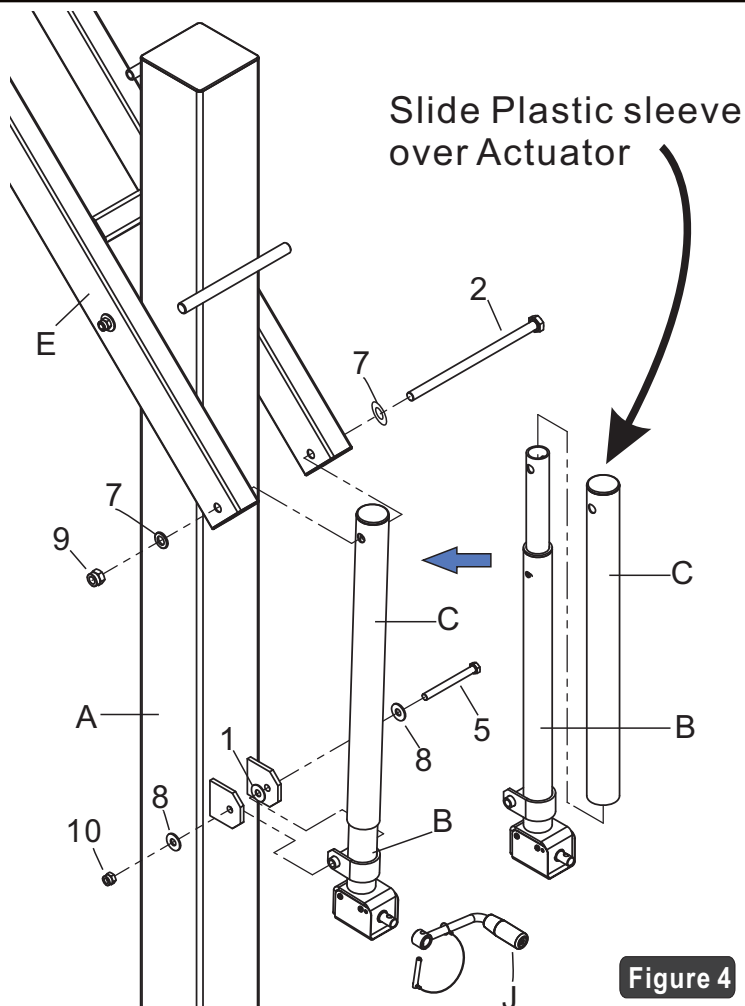

Figure 4
4. Attached Actuator (B) to Lower extension Arm (F).
Slide Actuator plastic sleeve (C) over top of Actuator (B), align the hole in the Plastic sleeve with the hole in the Actuator, See **Figure 4** in previous page.
See **Figure 4** in previous page.